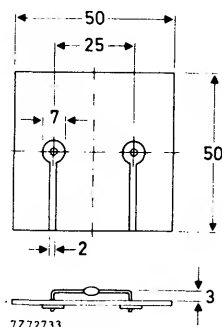

Fig. 2 Mounted on a printed-circuit board.
2. Thermal resistance from junction to ambient when mounted on a 1,5 mm thick epoxy-glass printed-circuit board; Cu-thickness  $\geq 40 \mu\text{m}$ ; Fig. 2